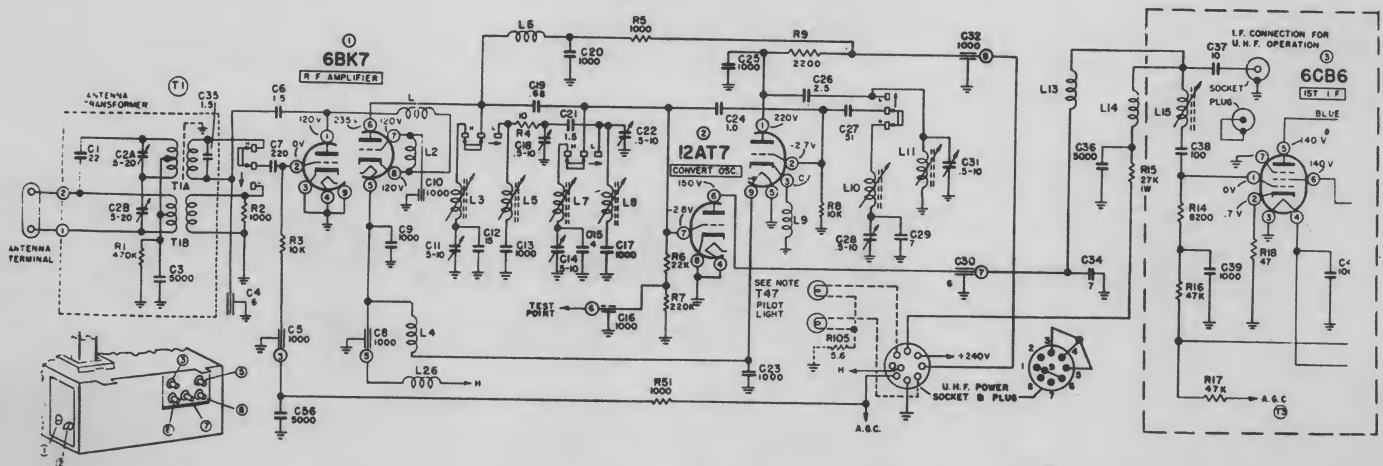

Fig. 9-4. Continuous vhf tuner: Raytheon 17T1.
*a. General.* Figure 9-4 is the schematic diagram of a continuously variable tuner found in the Raytheon 17T1 chassis. A dial drive moves a core in and out of the stationary coils, varying their inductance. The r-f amplifier, mixer, and oscillator cores are all ganged to this drive mechanism. An associated switch selects coils for either the low channels (2 through 6) or the high channels (7 through 13). In the position shown in Fig. 9-4 the high-frequency coils and capacitors are in the circuit.